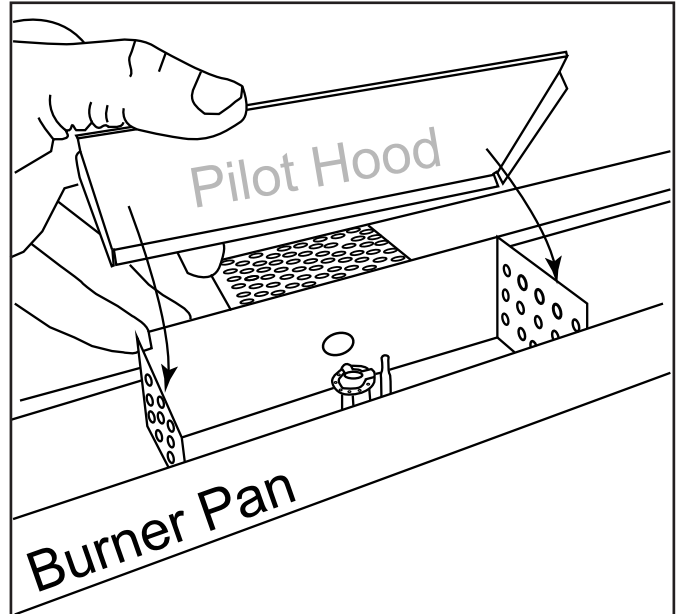

Fig. 31 Pilot hood installing over top of pilot box.
Step 22: Place pilot hood on top of the pilot box and ensure it sits flat, providing ventilation for the pilot at the front edge of the burner pan. See Figs. 31 and 32.
Test fire the fireplace before installing media to ensure flame is passing through ignition hole as shown in Fig. 31. This is a good time to double check for any gas leaks or electrical connections before finalizing the installation by installing the glass media.